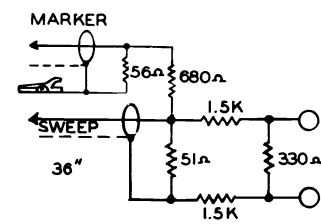

Fig. 7 VHF ISOLATION NETWORK
3. Attach the sweep generator at the VHF tuner antenna terminals, using VHF isolation network. See figure 7.